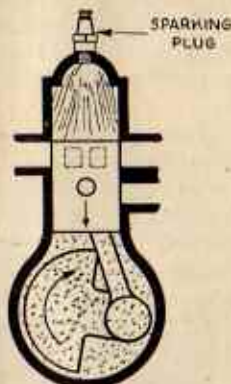

FIG. 5.
**The Sparking Plug.**—If the reader has been able to follow thus far, it will now be necessary only to explain that the explosive gas compressed in the combustion chamber is fired at the correct moment by means of an electric spark provided by way of a sparking plug screwed into the cylinder head (see Fig. 5). How this electricity is supplied is explained in the chapter dealing with the ignition.